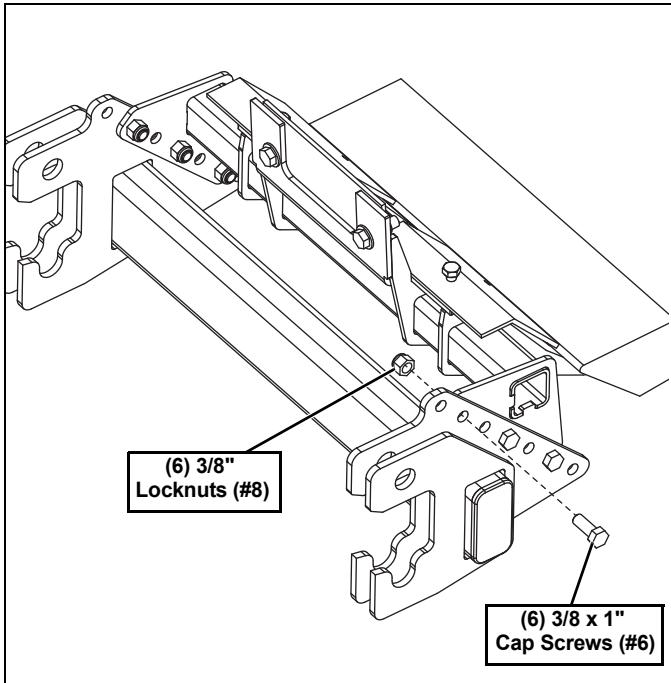

Figure 8
10. Attach the UTV Mount (#1) to the Mounting Weldment (#2) with (6) 3/8"-16 x 1" Cap Screws (#6) and (6) 3/8"-16 Locknuts (#8). Three on each side. (See Figure 8.)